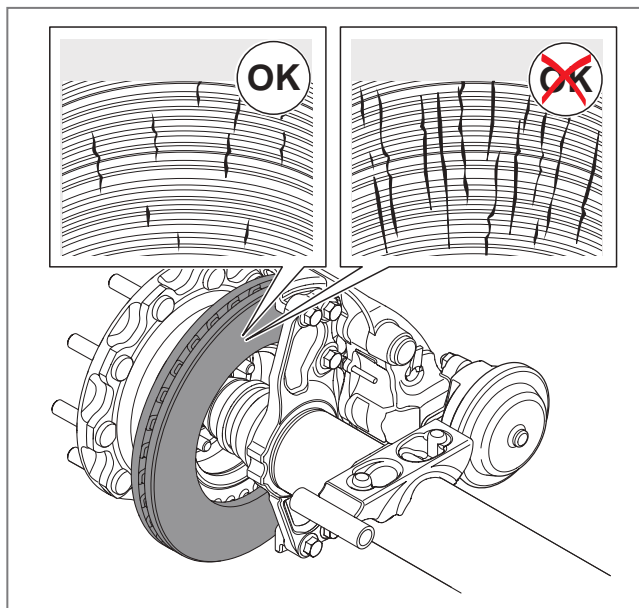

Fig. 18 - Inspection of the brake disc
1. Look for wear, damage and cracks, see ► Fig. 18. Cracks that enter the cooling ducts via the outer circumference or on the inner diameter of the friction ring are not permitted!